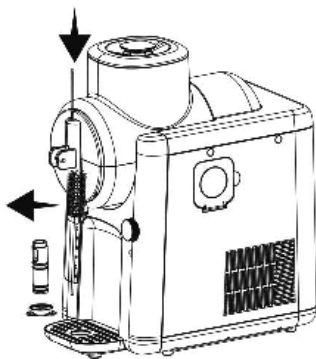

Fig. 6
5. Turn the front cover of the mixing container counterclockwise to unlock it and then remove it (Fig. 6).